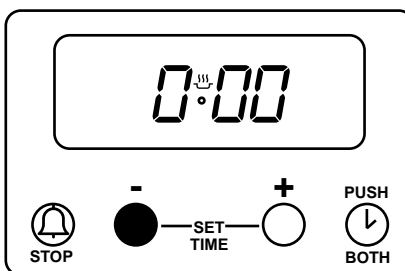

Fig. 13.4
To set, press button (1) and the display will read **0:00**. See Fig. 13.4.